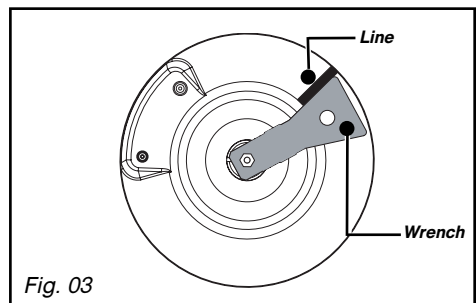

Fig. 03
In an existing system, a soft pipe fitted with clamps whose service life is five years may be used. It is necessary in this case to use an adaptor without forgetting to fit a sealing washer between the adaptor and the hob's elbow. (Fig. 03).
- Turn the wrench clockwise until the line appears on the other side (Fig. 03).